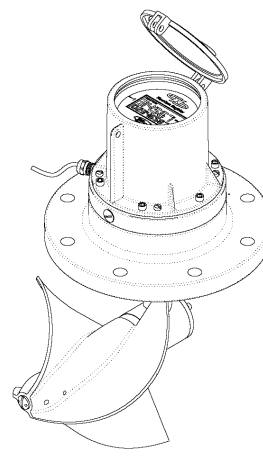

Figure 18: Register Mounted To A Meter Head
Step 4. Secure the electronic register to the meter head with the four 1-1/4" long screws provided (Figure18).